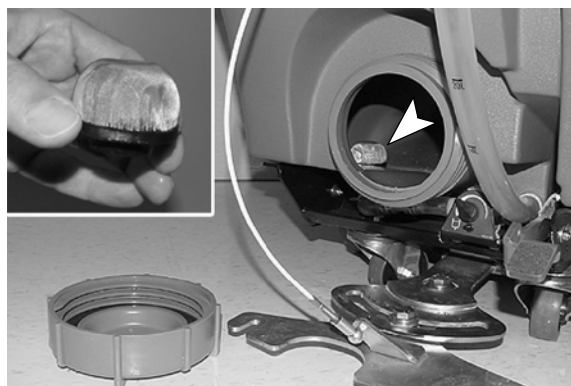

FIG. 45
5. Remove and clean the solution tank filter (Figure 45). Turn the filter counter-clockwise to remove.